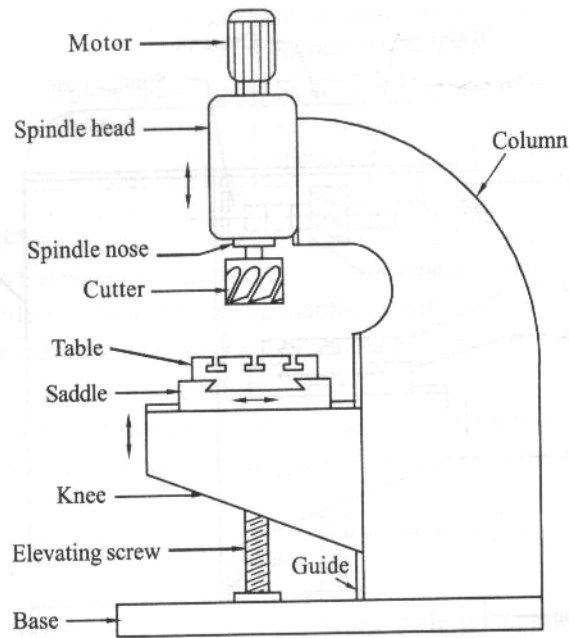

Fig. 11.4 Vertical knee-and-column milling machine
- (i) Face milling: Refer Section 11.8, Fig 11.4.